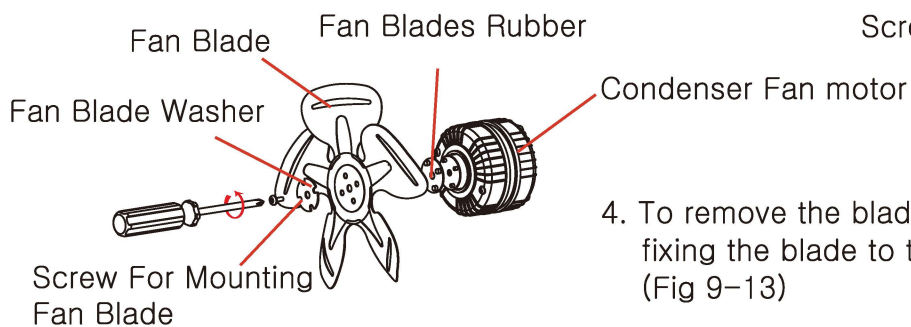

Fig 9-13
3. Loosen the connecting bolts between the fan motor and fan guard. (Fig 9-13)
4. To remove the blade, loosen the bolt fixing the blade to the motor shaft. (Fig 9-13)